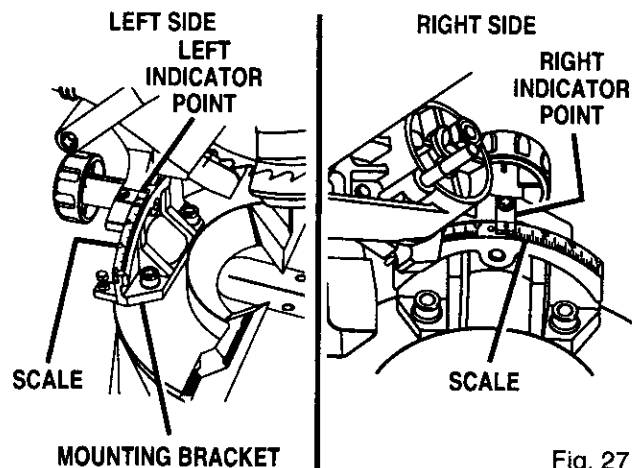

Fig. 27
See Figures 27 and 28.
- For your convenience there is a double scale located on the mounting bracket. See Figure 27. If one side becomes difficult to read as you move the saw arm to the left, simply refer to the other side. Always use the indicator point for the side you choose with the desired angle.
- For your convenience there is a double scale located on the mounting bracket. *See Figure 27.* If one side becomes difficult to read as you move the saw arm to the left, simply refer to the other side. Align the indicator point for the side you choose with the desired angle.